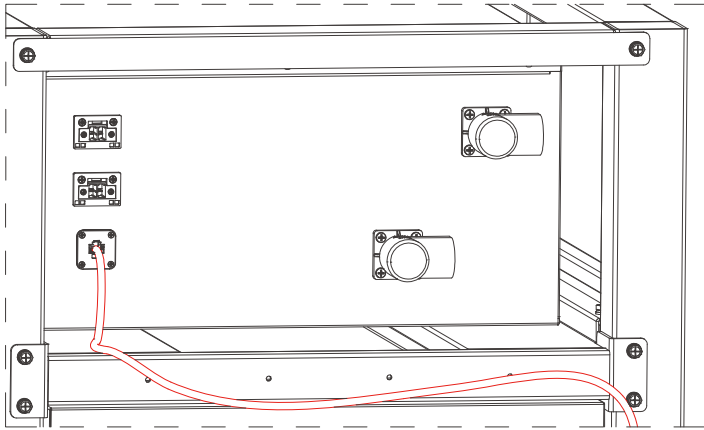

Figure 2.11
(7) The main control box communication CAN line is connected to the PCS communication CAN line. Plug in and lock the main control box CAN communication plug, and lock the PCS communication CAN port (Figure 2.11).